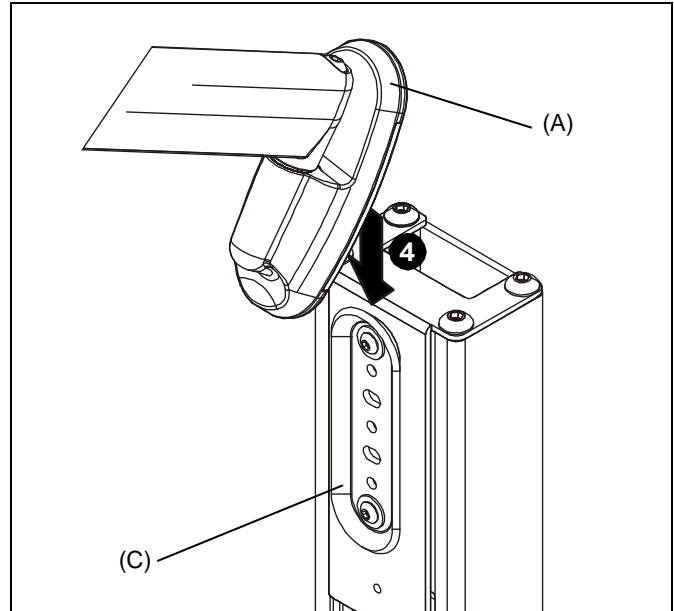

Figure 3
4. Insert top of height-adjust assembly (A) over lip on top of assembly bracket (C). (See Figure 3)